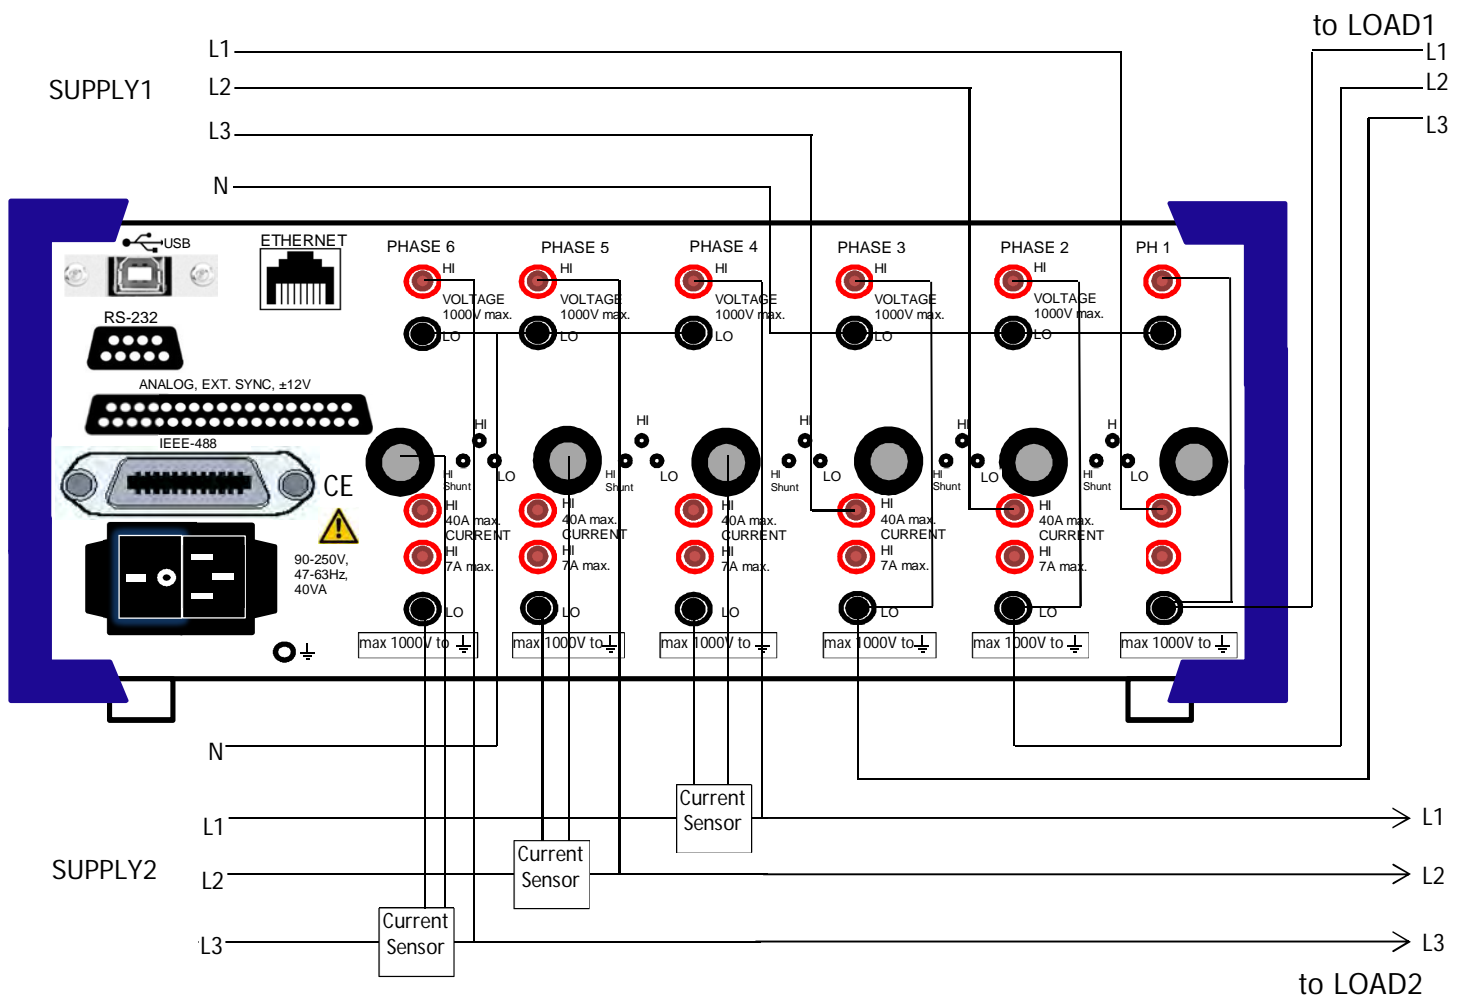

Figure 2.3 Power measurement using three 30A current inputs and three 1A current inputs
Figure 2.3 shows the connections to a 6-phase Power Analyzer using three 30A current inputs and three 1A current inputs from a three phase 0-100A current sensor module. Such current sensors have at 100A primary current a nominal of 50mA output current and therefore require a current scaling factor of 2000 to display actual current and power.
- Make connections as shown in Figure 2.3. Observe Rules 1 and 2 to obtain positive power on all phases. Note: Rms current is positive independent of direction